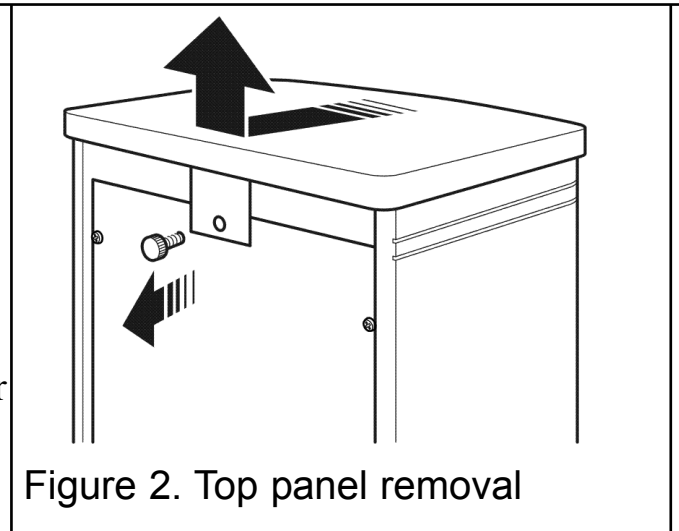

Figure 2. Top panel removal
- At the rear of the heater, remove the thumbscrew securing the top panel and slide backward, remove and put to one side (See figure 2).
1. To gain access to the lamp remove the thumbscrew located at the top rear of the heater and slide the top panel backward. This will disengage the top panel from the heater body (See figure 2).